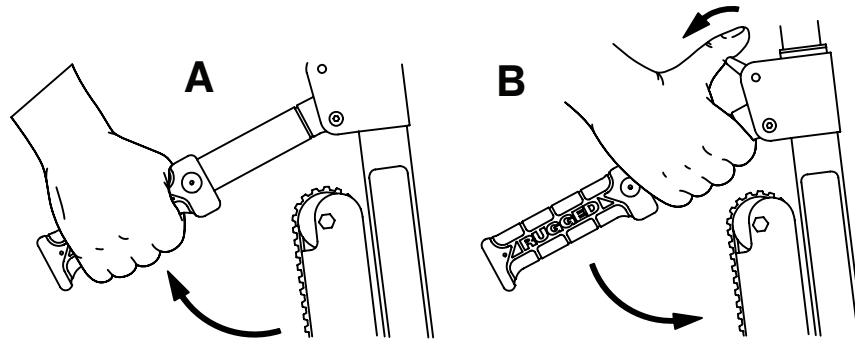

Figure 7 – Lowering the locking rear lift handles
1. Lift up on the locking rear lift handle (A) (Figure 7).
2. Pull the red handle trigger (B) toward you with your thumb.